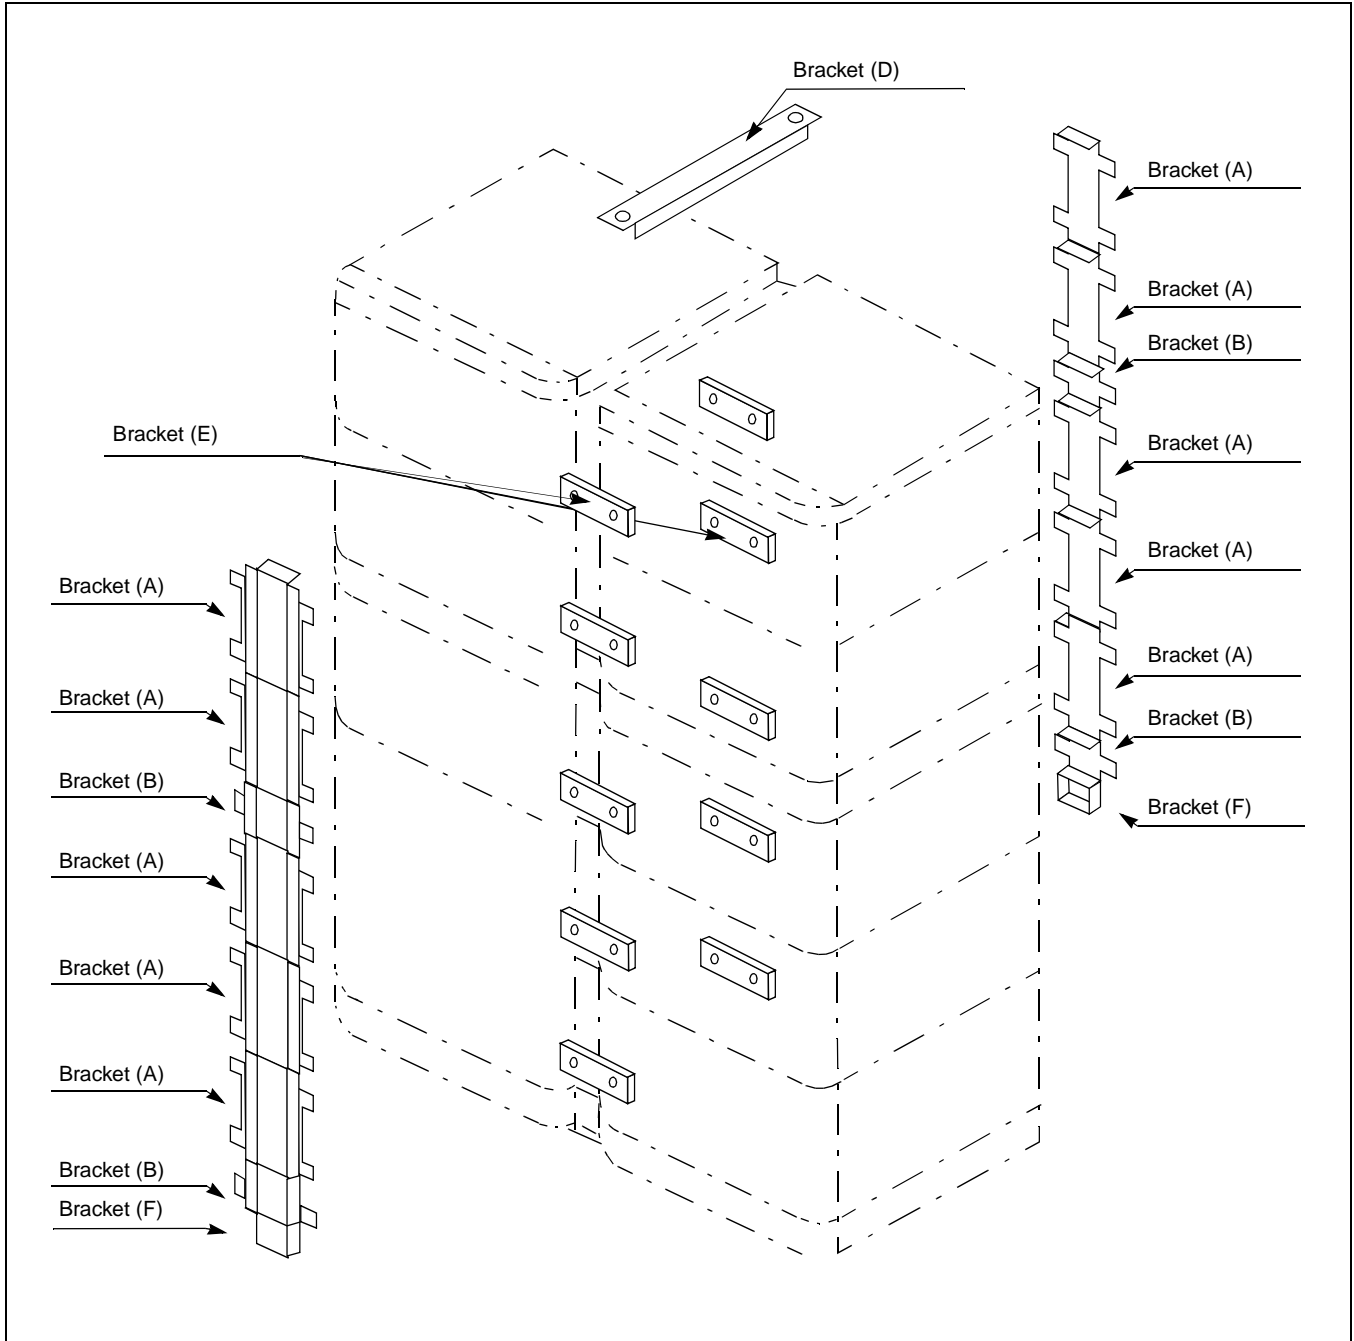

Figure 7-11 How to Attach Inter-frame Brackets (Continued)
STEP 9: Referring to Figure 7-11 and Figure 7-11, fix the brackets (D) with the screws.